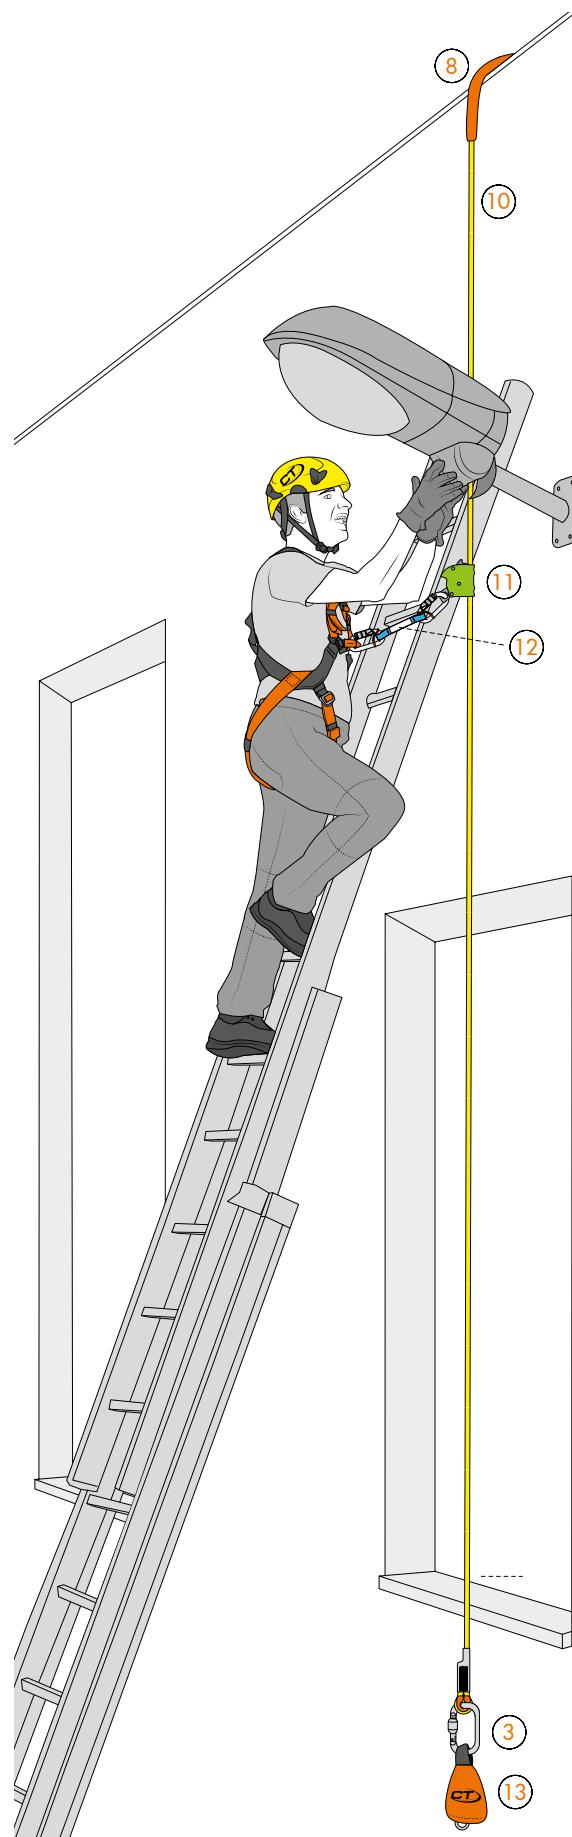

Fig. 4
The operator creates an anchor point using a structural element (e.g. pillar or beam - Fig. 4) or a strut (Fig. 5). He or she then attaches a rope with a loop (10) at one end and at the other a weight (13) and lowers this to the ground. The length of the rope should be calculated so that the weight remains suspended a few centimetres from the ground and the rope remains under slight tension. The operator then positions the ladder next to the vertical rope and connects herself to it using an EN 353-2 guided type fall arrester (11) and starts climbing, maintaining the device as high as possible to avoid a high fall factor.